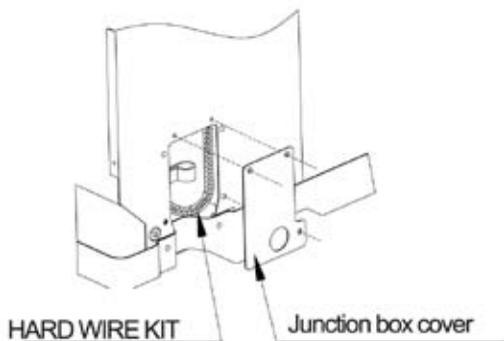

Fig. 8
2. Remove Junction box cover by removing three screws from side. Remove Junction box cover by taking out top and side screws. See Fig. 8.